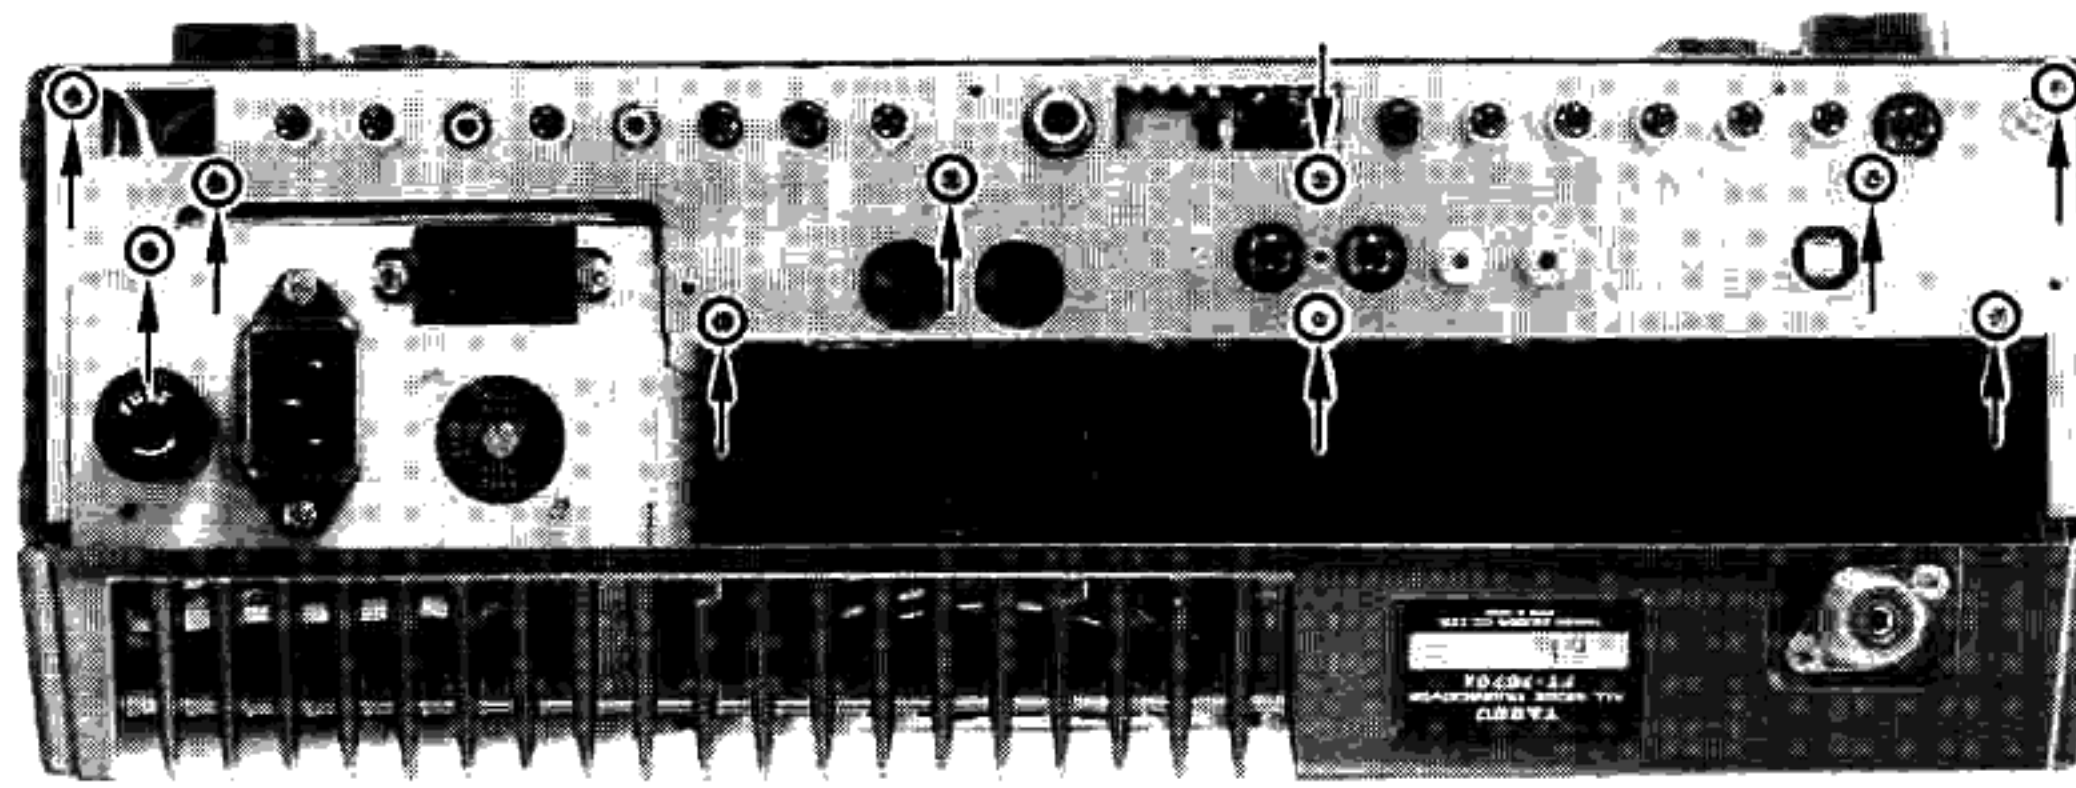

Figure 5
- (6) Referring to Figure 5, remove the 10 screws from the inner rear panel, and remove this panel.